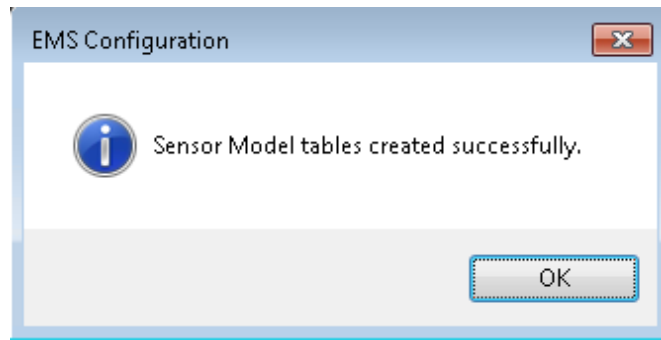

Figure 125
- This will import the entire range of **Hanwell** sensor types into the database. Once this process is complete, the message shown below in Figure 125 will be displayed stating that the **Sensor Model** tables have been created successfully.